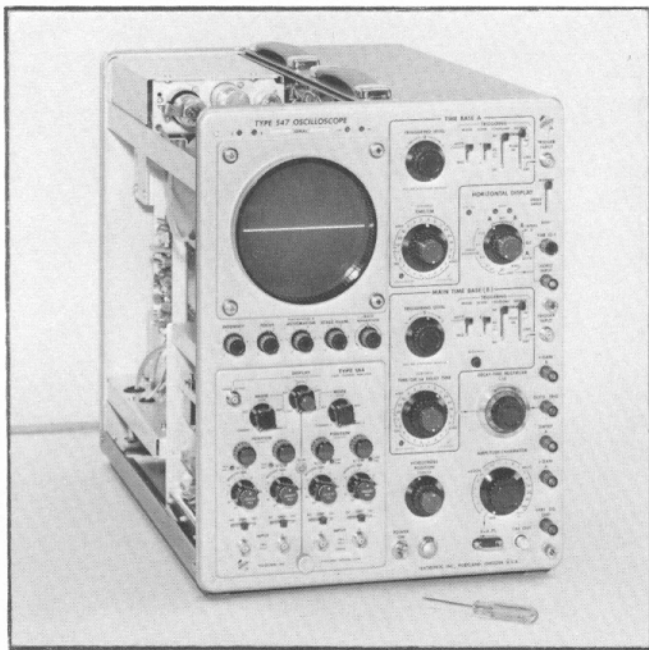

Fig. 7-20. Equipment setup for steps 15 through 18.
15. Adjust Variable Balance (R60 Final Adjustment) ①
- a. Equipment setup is shown in Fig. 7-20.
16. Adjust Trigger Selector DC Balance ①
- a. Equipment setup is the same as shown in Fig. 7-20.